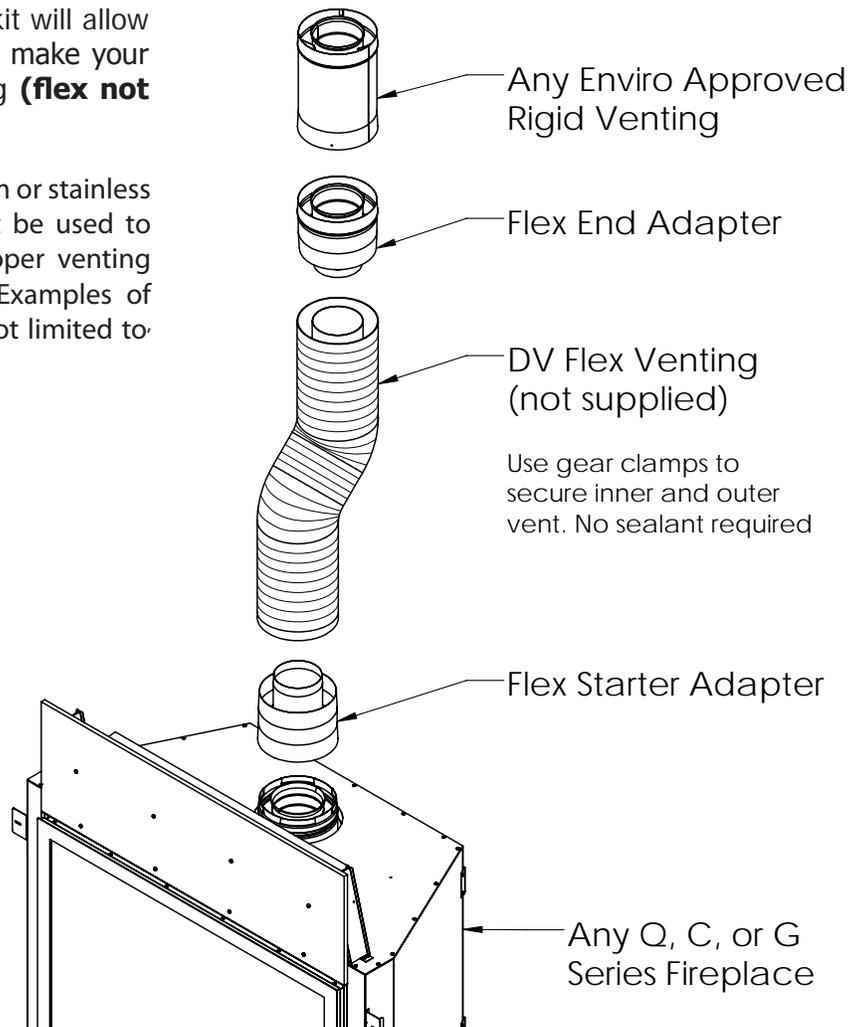

Figure 27. Flex Adapter Kit Install
- Step 8.** Continue to add pipe sections until the height of the vent cap meets the minimum code requirements. Refer to Figure 27 and Table 7. Note that for steep roof pitches, the vent height must be increased. In high wind conditions, nearby trees, adjoining roof lines, steep pitched roofs, and other similar factors can result in poor draft, or down drafting. In these cases, increasing the vent height may solve the problem.
Table 7: Minimum 'H' for Figure 27.